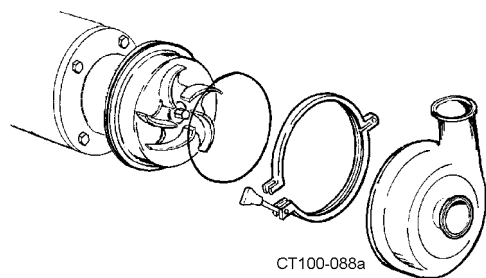

Figure 43 - Install Casing
30. Install the casing O-ring on the backplate and clamp the casing in place (Figure 43).